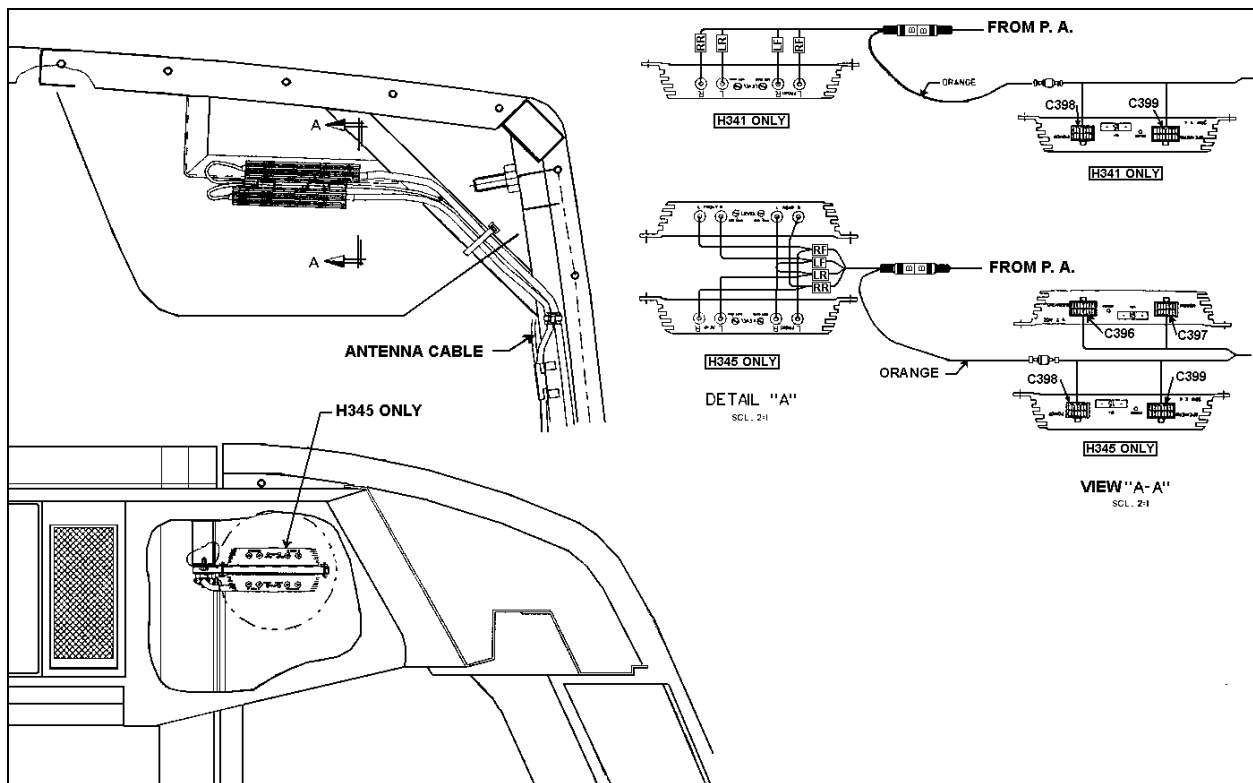

FIGURE 9
1. Remove the snap caps and retaining screws from the driver's dome light panel (fig.9). Remove panel from its location and let it hang by the wires.